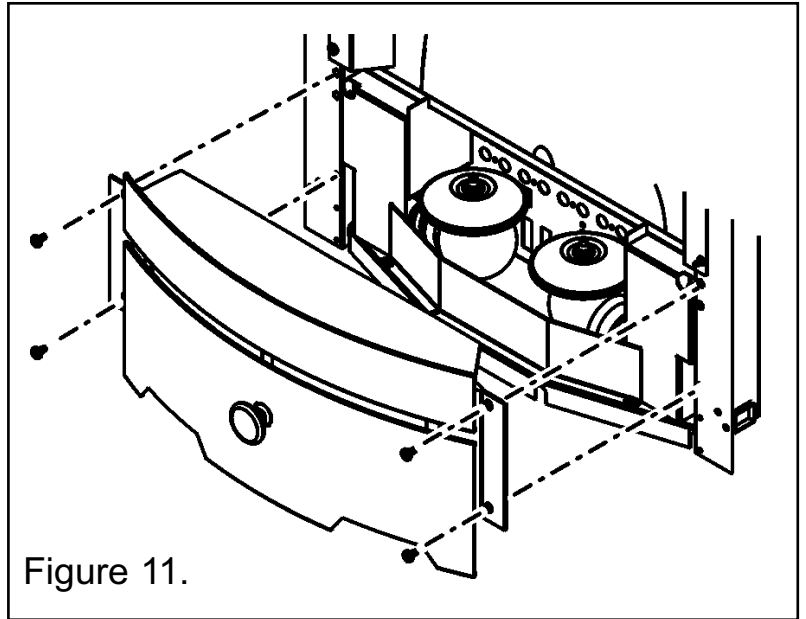

Figure 11.
- Align the four holes in the firefront assembly with those on the heater (See figure 11). Secure with the four screws supplied.
6. Locate the lower firefront casting onto the product. The two screws on the rear of the firefront casting locate into the two slots in the heater (See figure 11).